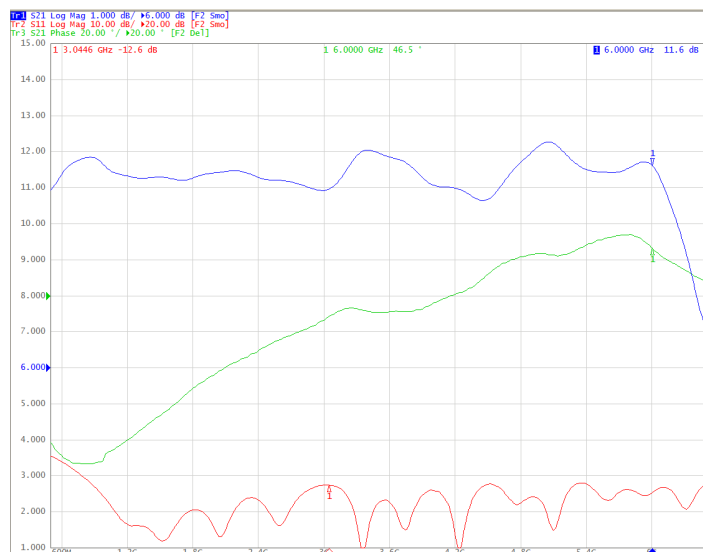

Figure 4-3. Typical Quad Amp Response
- If the gain is slightly low (i.e., several dB below typical), repeat step 2 above in each module bank. Note the difference in response when measuring the Quad Amps; if any Quad Amp causes less of a change in gain than the others, check the Quad Amp, coaxial cable, and so forth associated with that Quad Amp. Typical Quad Amp Response is shown in Figure 4-3.